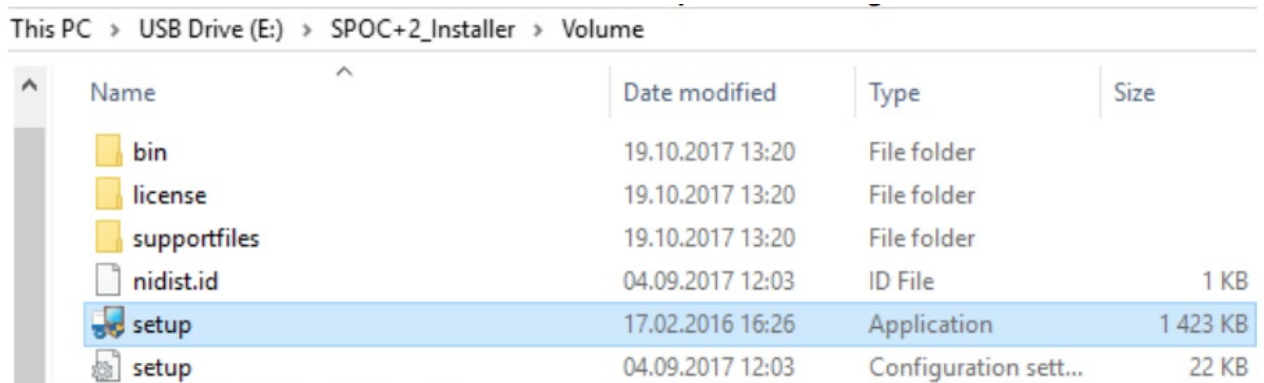

Figure 6 – SPOCTM+2 - setup.exe
- USB-Drive:\SPOC+2_Installer\Volume\setup.exe (see Figure 6)